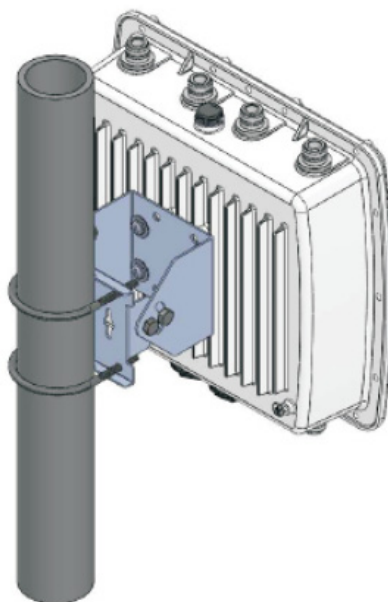

Figure 16. Pole Installation of the Access Point
The AT-TQ5403e access point can be mounted on a vertical pole or horizontal pole. see Figure 16.
- ☐ The access point must be installed the front panel down as shown in Figure 16.